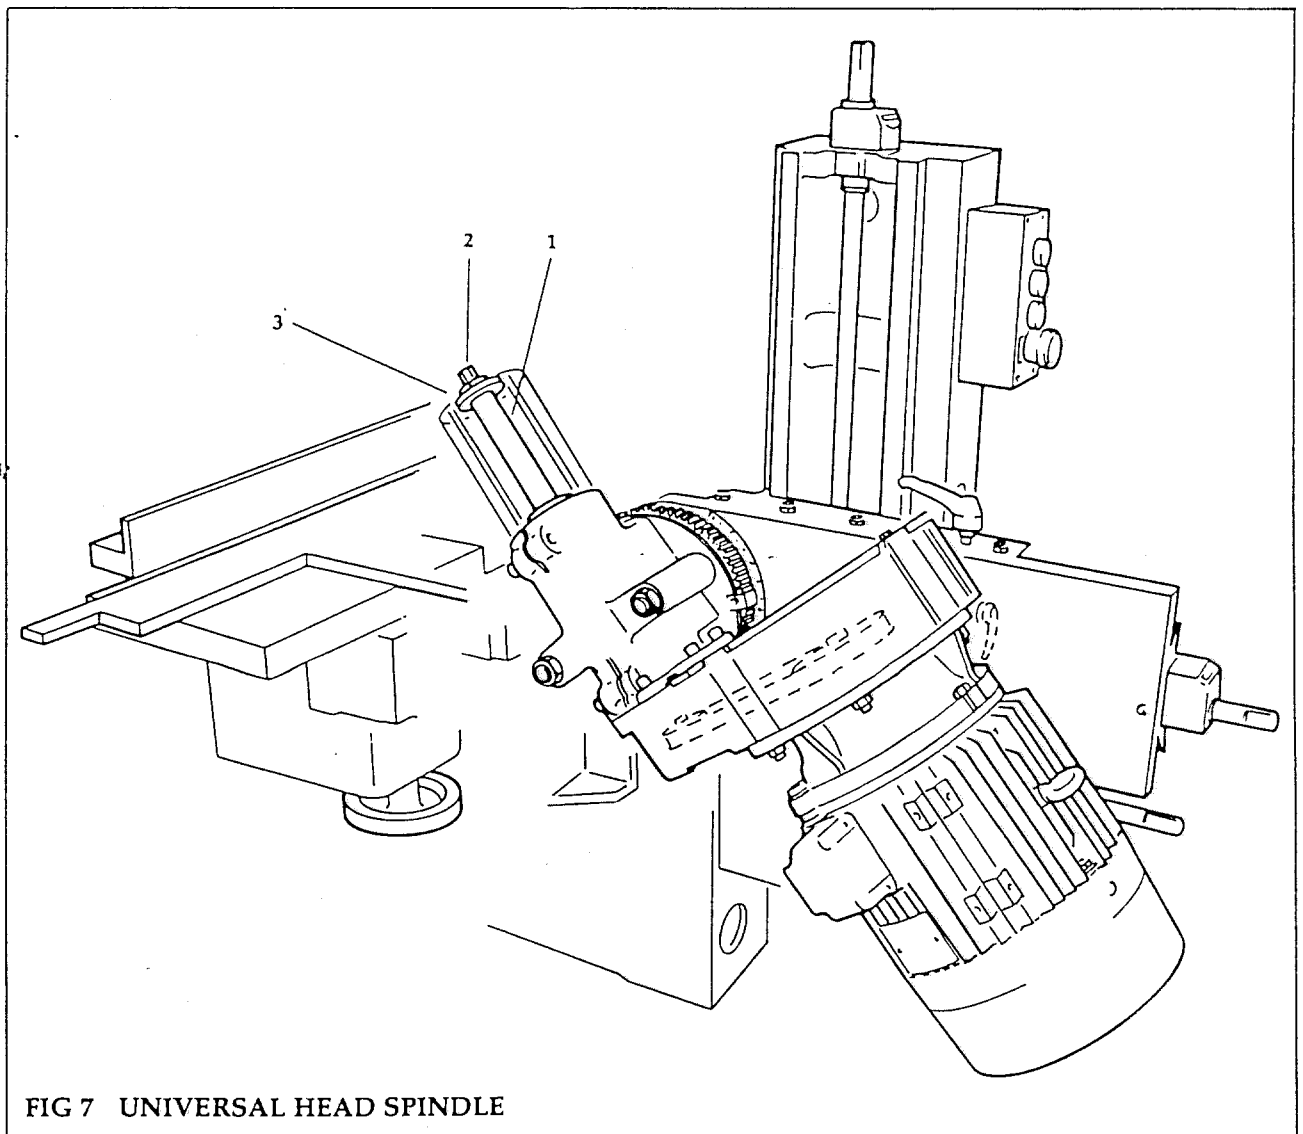

FIG 7 UNIVERSAL HEAD SPINDLE
Universal Head (Fig 7) — when fitted
- (2) Check direction of cut. Ensure the locking collar (3) is fitted.
**NOTE:** In the Bottom Head position always change the cutterblock from the rear of the machine. However, in the Vertical mode it is possible to change the cutterblock from the nearside, using a similar procedure. (See Fig 15 for Universal Head modes). Fig 7 shows the head in the near-side vertical (angled or canted) mode.